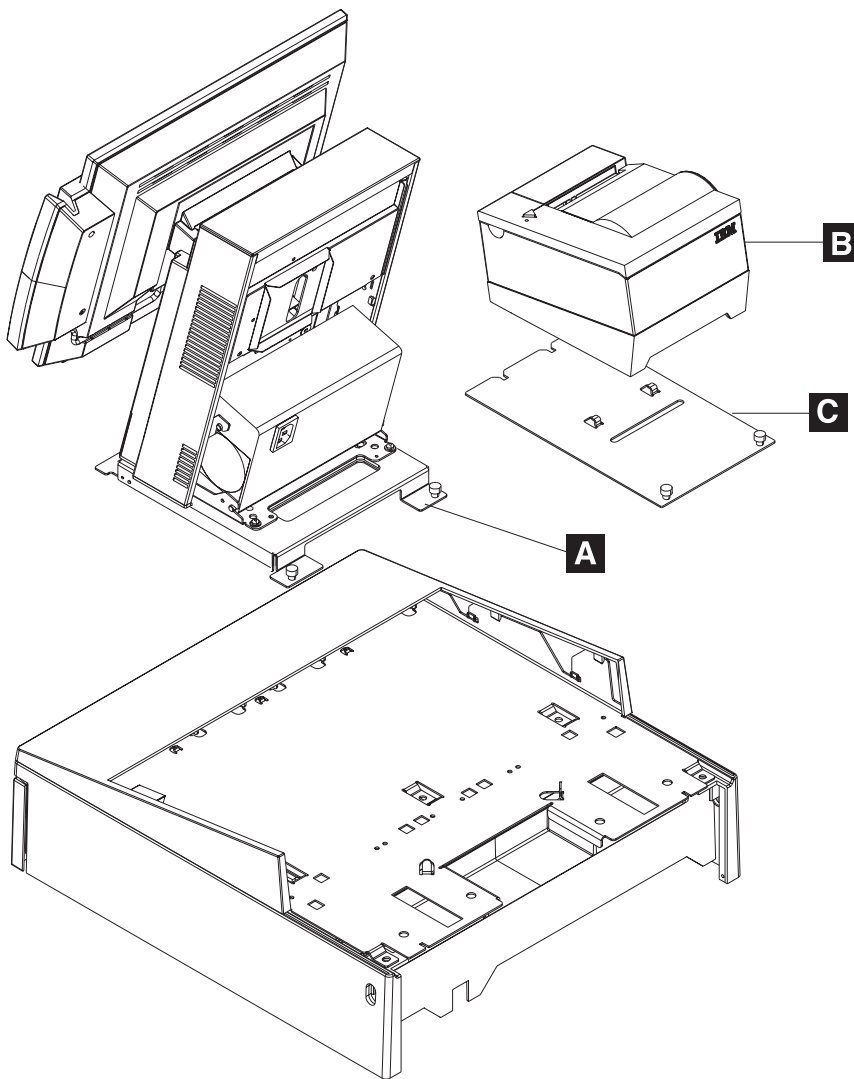

Figure 23. Attaching mounting plate to the cash drawer integration tray
- b. Attach the SurePOS 500 Series base mounting plate **A** to the right side of the integration tray. Slide the front of the plate under the appropriate pair of tabs on the integration tray. Secure the rear of the plate to the tray with two thumbscrews as shown in Figure 23.